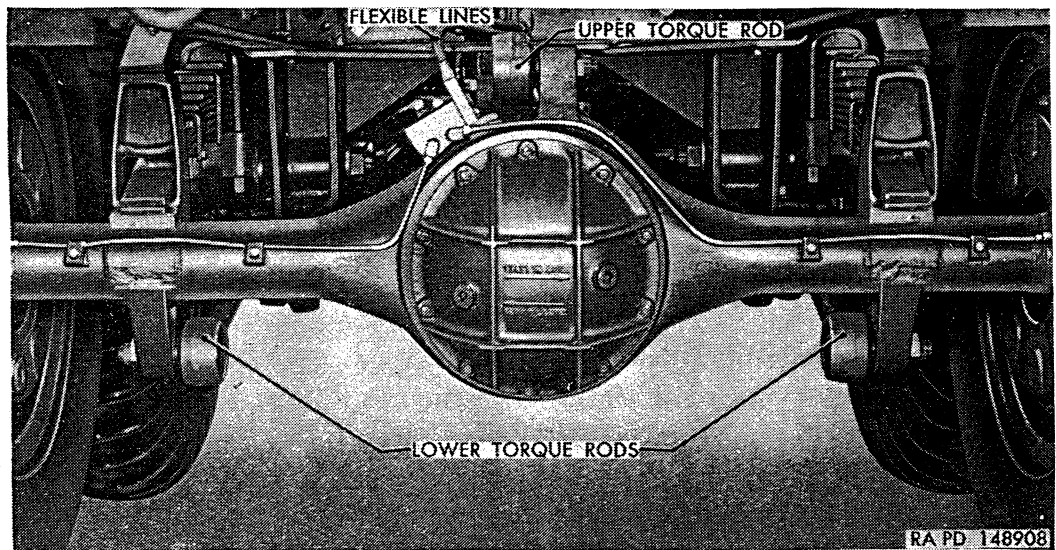

Figure 237. Rear rear axle assembly installed.
c. *Removal* (fig. 237).
- (1) *Position vehicle.* Place vehicle on a level surface and block front wheels to prevent vehicle rolling. Place a jack under axle and raise vehicle until tires are off the ground.
- (2) *Remove wheels.* Remove wheels and tires from each side (par. 259b).
- (3) *Block vehicle.* Place blocks under torque rod support bracket at spring seat at each side to support vehicle after axle is removed.
- (4) *Disconnect flexible hose.* Disconnect hydraulic brake and axle vent flexible hose at junction block on top of axle housing.
- (5) *Disconnect propeller shafts.* Remove four bolts and nuts attaching propeller shaft universal joint flange to differential pinion flange.
- (6) *Loosen torque rods.* Remove nuts and washers from three torque rod end pins. Use a soft metal hammer to loosen torque rod end pins in axle brackets.
- (7) *Disconnect torque rods.* Remove torque rod end pins from each axle bracket.
- (8) *Remove axle.* Lower axle with jack and pull assembly rearward as necessary to disengage main spring ends from axle brackets; then completely remove axle assembly.
*d. Installation (fig. 237).*
- (1) *Position axle.* Move axle into position under vehicle and engage main spring ends with openings in bracket at each end of axle housing.
- (2) *Connect torque rods.* Attach three torque rods to axle brackets by installing torque rod end pins in axle brackets. Install washer and 1-14 safety nut on each pin. Tighten nuts to 350 to 400 pound-feet torque.
- (3) *Connect flexible hose.* Connect hydraulic brake and axle vent flexible hose at junction on top of axle housing with two connector bolts and four new copper washers. Use one washer on each side of connector. Tighten connector bolts to 20 to 30 pound-feet torque.
- (4) *Connect propeller shaft.* Position propeller shaft joint flange to differential pinion flange, with lubrication fittings in same plane as other shafts; then install four bolts and  $\frac{7}{16}$ -20 safety nuts. Tighten nuts to 33 to 43 pound-feet torque.
- (5) *Install wheels.* Install wheels on hub (par. 259c).
- (6) *Remove blocks and jack.* Raise vehicle with jack as necessary to remove block from under each torque rod bracket; then lower jack and withdraw from under vehicle.
- (7) *Bleed brakes.* Perform brake bleeding operation (par. 237).
- (8) *Lubricate.* Check lubricant level in axle differential (par. 224b). Lubricate propeller shaft universal joints as directed on lubrication chart (par. 69).
- (9) *Check for lubricant leaks.* Check for lubricant leaks around housing cover. Tighten cover stud nuts to 45 to 55 pound-feet torque.